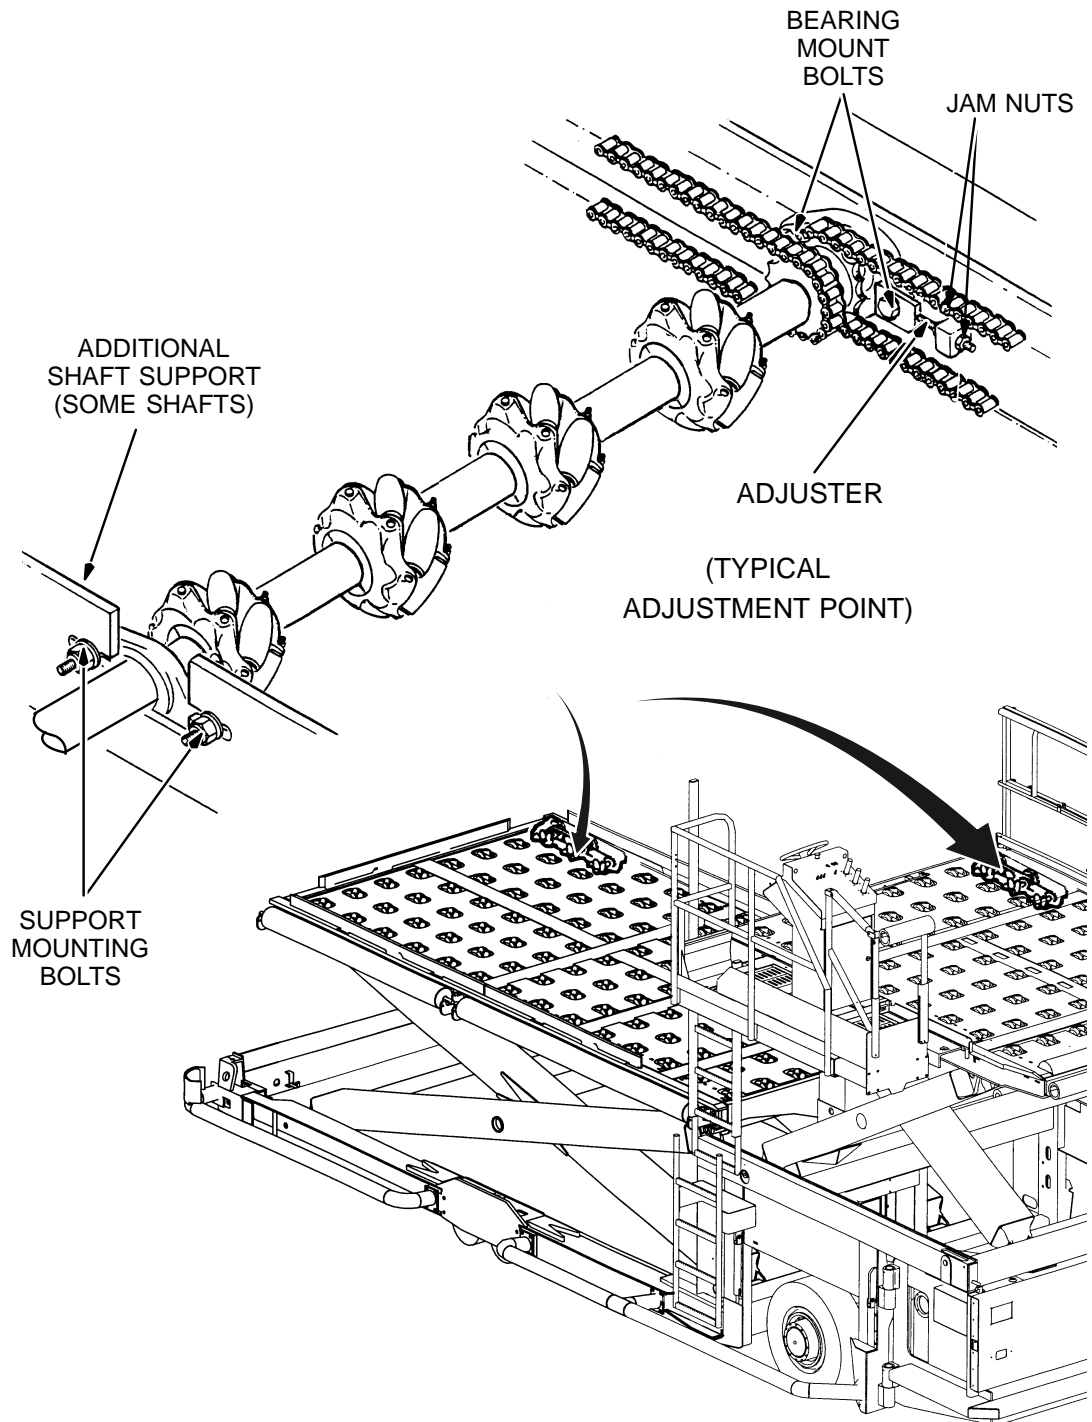
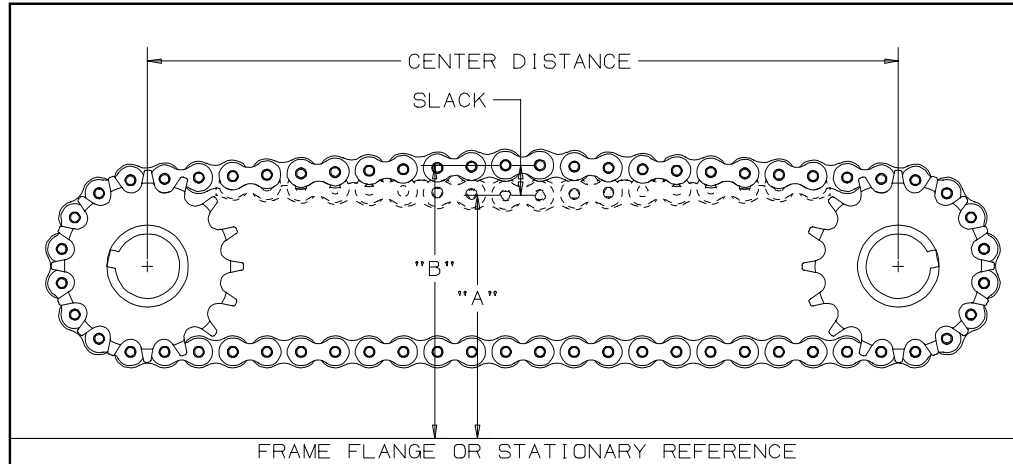

Figure 1
Figure 2
- (1) Remove deck plates as necessary to gain access for adjustments.
- (2) Loosen the bearing mounting bolts (Figure 1). Keep mounting bolts snug to ease adjustment and prevent unintentional movement of shaft.
- (3) On shaft with additional support (Figure 1), loosen the support mount bolts completely so the bearing will move freely.
- (4) Measure slack in the chain by lightly pushing down at the midpoint of one chain span (Figure 2). Push just enough to take up the slack in the other span(s). At that midpoint, measure the distance from the center of the chain pin, or another convenient location, to a stationary reference. Typically, this reference will be the platform or bridge frame. Record measurement as "A".
- (5) Now push the the chain up and, in the same manner as before, record measurement "B". Be sure to use exactly the same reference locations used to record measurement "A".
- (6) The difference between measurements "A" and "B" is the amount of slack in the chain.
- (7) Using the adjuster jam nuts (Figure 1), adjust the center distance (Figure 2) between the sprockets to obtain the slack listed in Table 1. Note that in some cases, adjustment of one chain may effect another chain adjustment. Check all chains and continue progressive adjustment until all are correct.